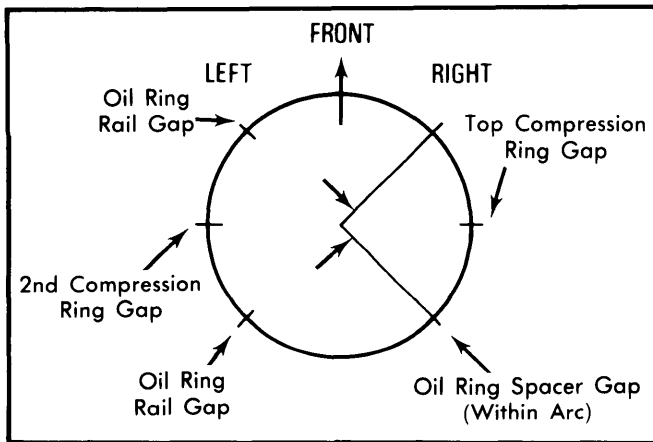

Fig. 5 Desired Ring Gap Locations
3) To check fit of rings in cylinder bore, insert ring in cylinder bore and push ring into bore 2" with head of piston and measure ring end gap with a feeler gauge. Before installing rings on pistons, ensure ring grooves are clean of carbon and inspect grooves for nicks or burrs. Install rings with gaps positioned as shown. See Fig. 5.